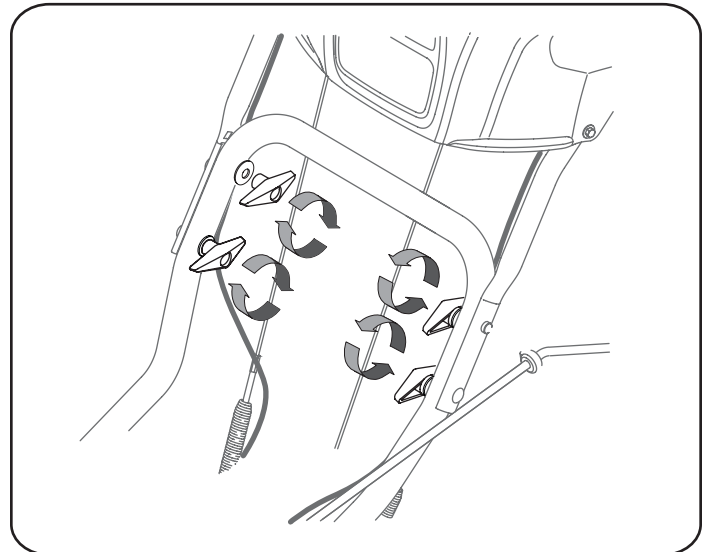

Figure 2
- Remove the lower handle knobs, washers and carriage bolts from each side of the upper handle. See Figure 2.